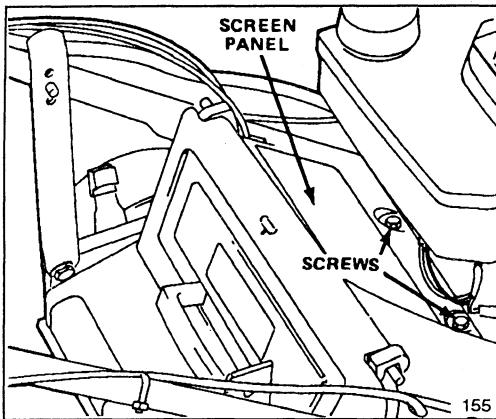

Figure 31
6. Remove screen panel on mower housing and clean around blade brake mechanism (Figs. 31 & 32).